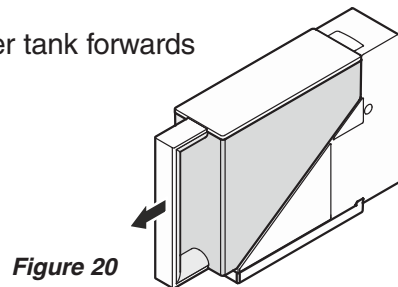

Figure 20
1. Pull out the water tank forwards (**Figure 20**).
Be sure the drawer is completely closed (**Figure 20**).